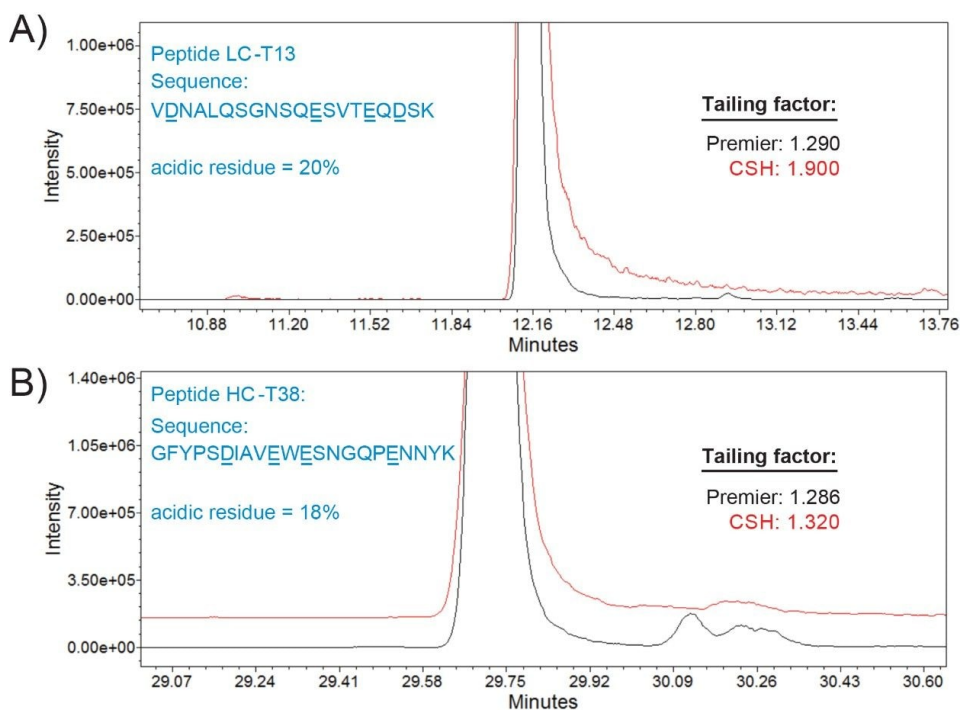

Figure 4: Evaluation of MaxPeak HPS Technology as a function of peak tailing for acidic amino acid containing peptide fragments A) LC-T13 and B) HC-T38.
Technology to reduce undesired analyte/surface interaction. Waters MaxPeak Premier columns with MaxPeak HPS Technology provide a robust and effective means to mitigate undesirable analyte/surface interaction. This is demonstrated in Figure 4 in terms of peak tailing factor for two acidic peptides, light chain (LC)-T13 and heavy chain (HC)-T38. As shown in Figure 4A, the LC-T13 peptide exhibited over a 60% reduction in peak tailing (1.29 vs. 1.90) when using the XSelect™ Premier Peptide C₁₈ Column compared to the conventional stainless-steel column. The improved performance observed when using the MaxPeak HPS Technology is critical when trying to resolve impurities that are sensitive to analyte/surface adsorption. This is demonstrated for the HC-T38 peptide (PENNY peptide) which exhibited substantial tailing with the stainless-steel column that obscures the low-abundance impurity peaks eluting after it. When using the XSelect MaxPeak Premier Peptide C₁₈ Column, these low-abundance peaks, identified to be deamidated forms of HC-T38, are both detectable and quantifiable. These results demonstrate the impact high-quality separations can have on peptide mapping assays and the value MaxPeak HPS Technology offers customers. The combination of system performance and system bio-inertness will lead to more robust assays that can be readily transferred and validated with increased confidence in data interpretation and less time spent at the bench.